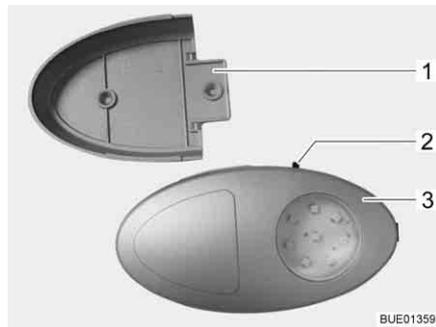

Fig. 48 Wardrobe light
- ▷ The wardrobe light can be removed from its holder (Fig. 48,1) and used as a torch.
The On/Off switch (Fig. 48,2) is located directly on the wardrobe light (Fig. 48,3).